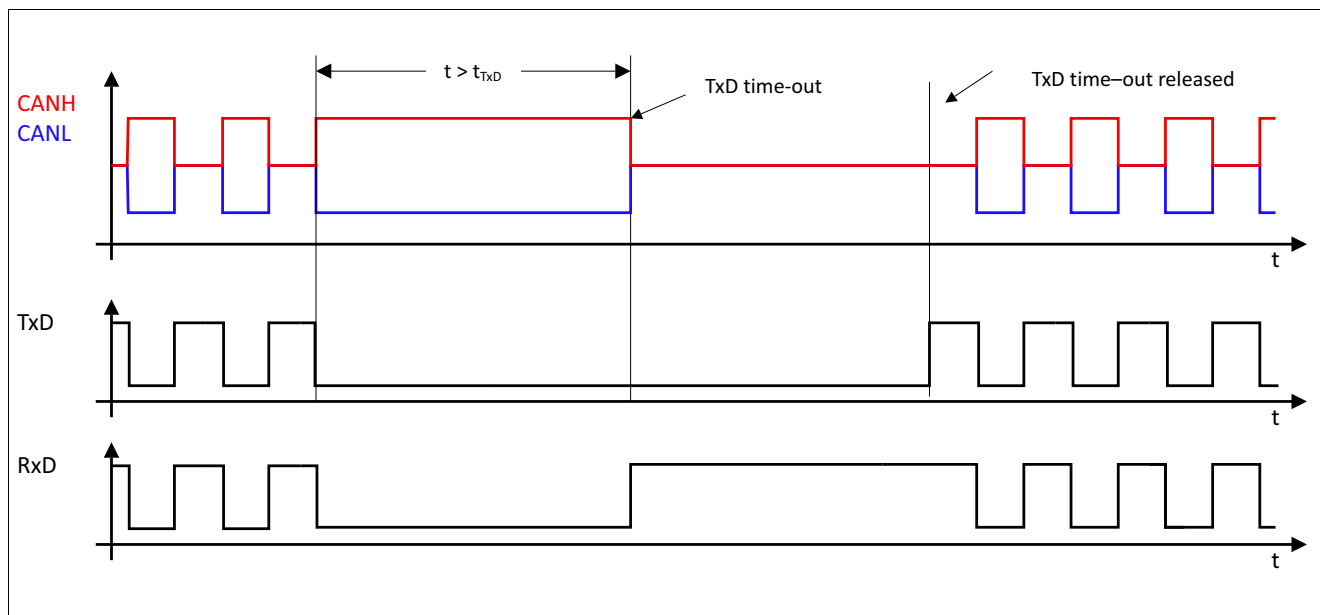

Figure 8 TxD time-out function
The TxD time-out feature protects the CAN bus against permanent blocking in case the logical signal on the TxD pin is continuously “low”. A continuous “low” signal on the TxD pin might have its root cause in a locked-up microcontroller or in a short circuit on the printed circuit board, for example. In normal-operating mode, a logical “low” signal on the TxD pin for the time  $t > t_{TxD}$  enables the TxD time-out feature and the TLE8250VSJ disables the transmitter (see Figure 8). The receiver is still active and the data on the bus continues to be monitored by the RxD output pin.
**Figure 8** illustrates how the transmitter is deactivated and activated again. A permanent “low” signal on the TxD input pin activates the TxD time-out function and deactivates the transmitter. To release the transmitter after a TxD time-out event the TLE8250VSJ requires a signal change on the TxD input pin from logical “low” to logical “high”.